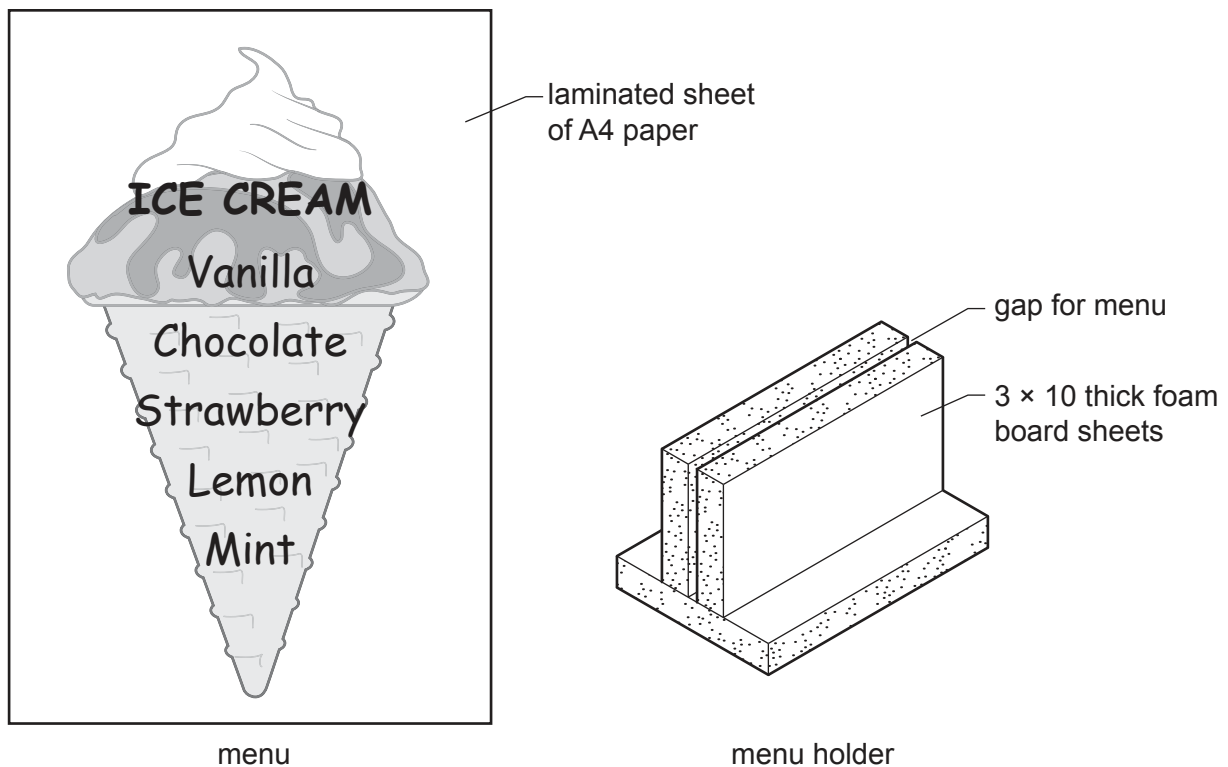

Fig. 3.1
- 3 Fig. 3.1 gives details of a menu and menu holder which are to be made in a school workshop.